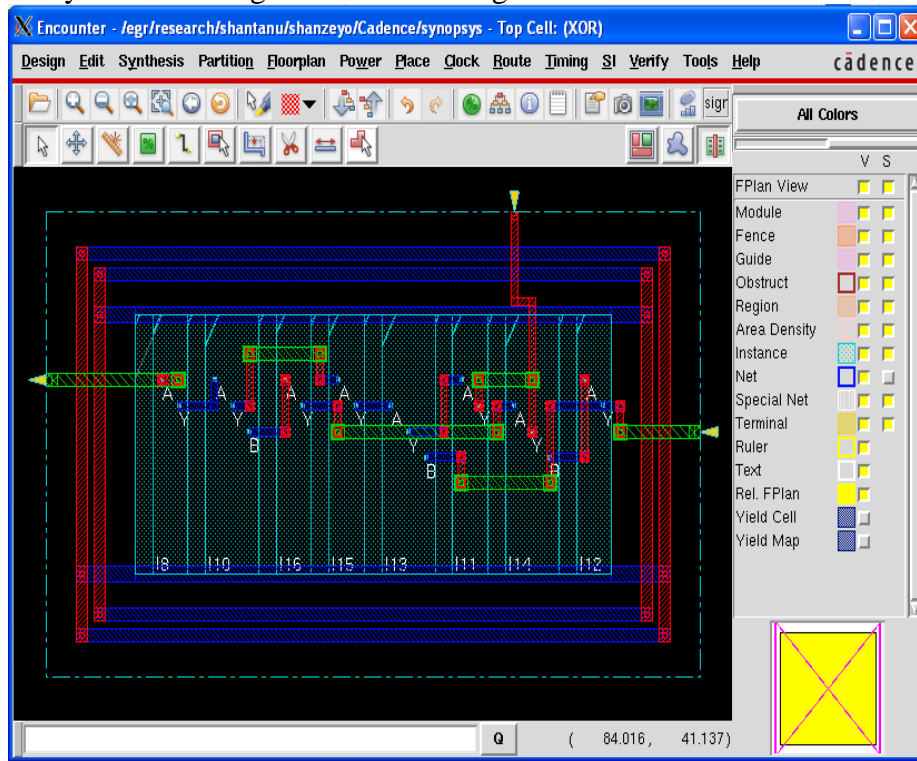

Fig 22: XOR cell with cell interconnects routed and filler added
- The final layout for XOR gate is shown in Fig 22.